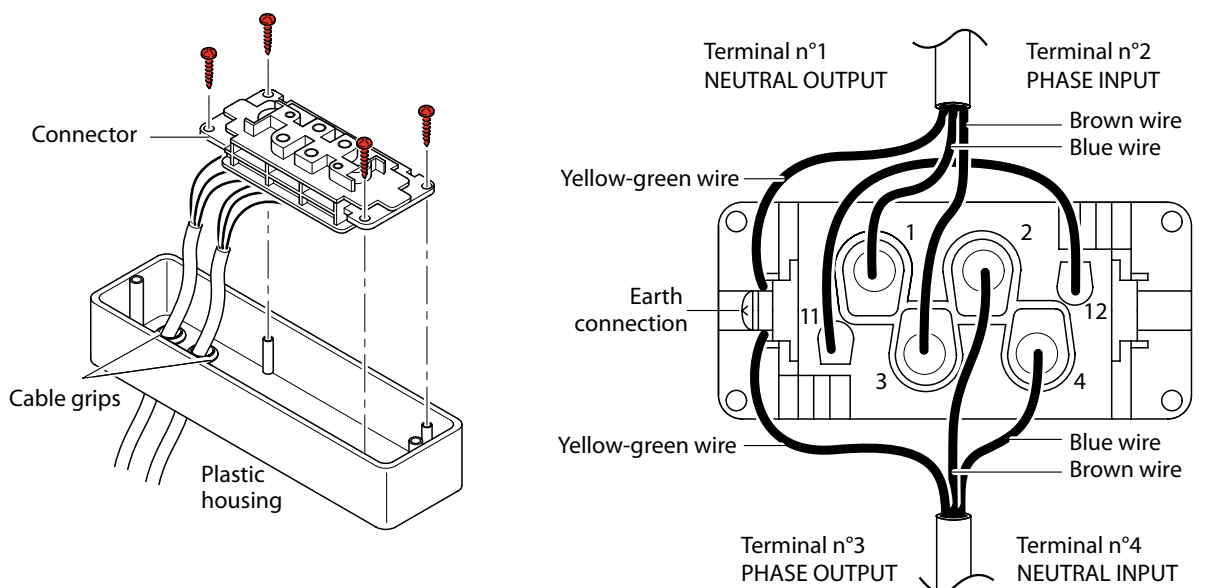

Fig. 7.
5. Insert the connector into the plastic housing and secure using the screws supplied. Insert the wires into the appropriate holes and secure them using the two cable grips (see fig. 7).